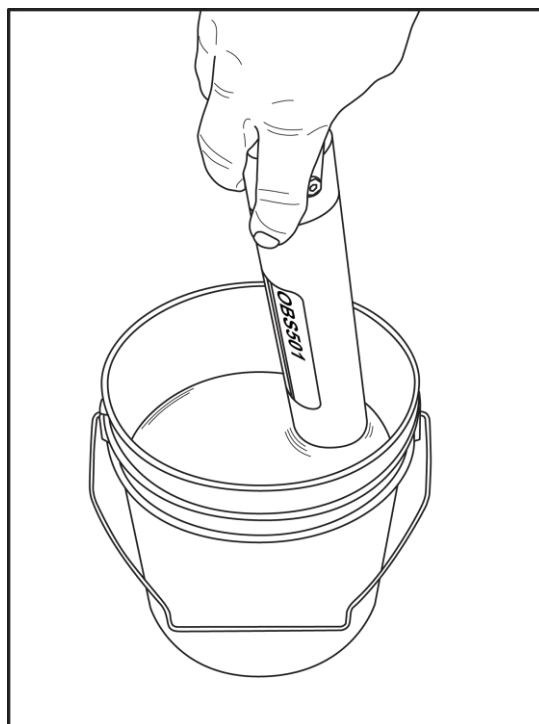

Figure 8-4. OBS501 in 500-TU AMCO Clear® turbidity standard in 100-mm black polyethylene calibration cup
3. Position the OBS sensor in the cup as shown in Figure 8-4, and record 10 s averages of the low- and high-range outputs. Record the average outputs on the calibration log sheet.